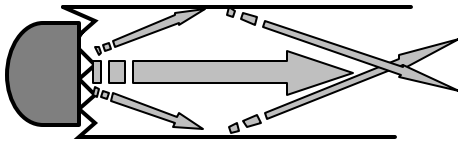

Figure 2
- Rough or irregular surfaces that prevent adequate contact with the transducer. Energy will ricochet off the side walls. Irregular or rough surfaces can be filled with couplant, but energy transmission will still be reduced and dispersed, as shown in Figure 2.